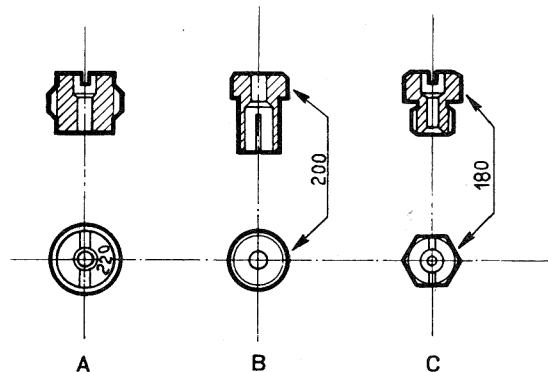

FIG. 36
4) Air correction jet - Fig. 36